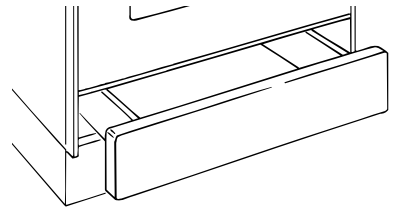

Fig. 3b Removing the drawer
- Remove the drawer (Fig. 3b).